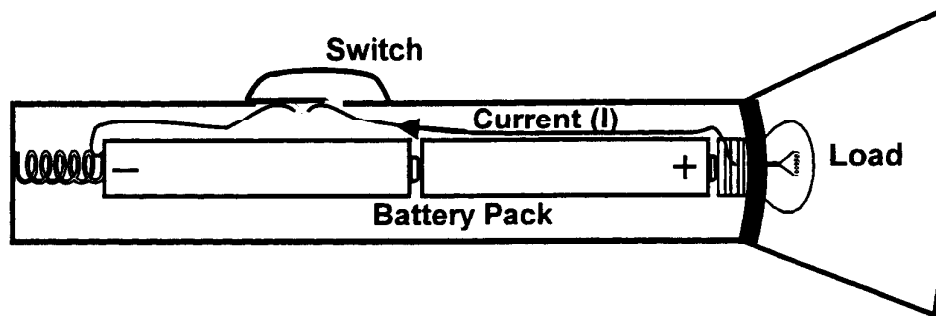

Figure 1
The basic operation of an electrical circuit is best illustrated by example. An ordinary flashlight is a good example of a simple electrical circuit. A flashlight is powered by direct current (DC). The term “direct current” is explained later in this unit. Figure 1 illustrates the main components of a flashlight.